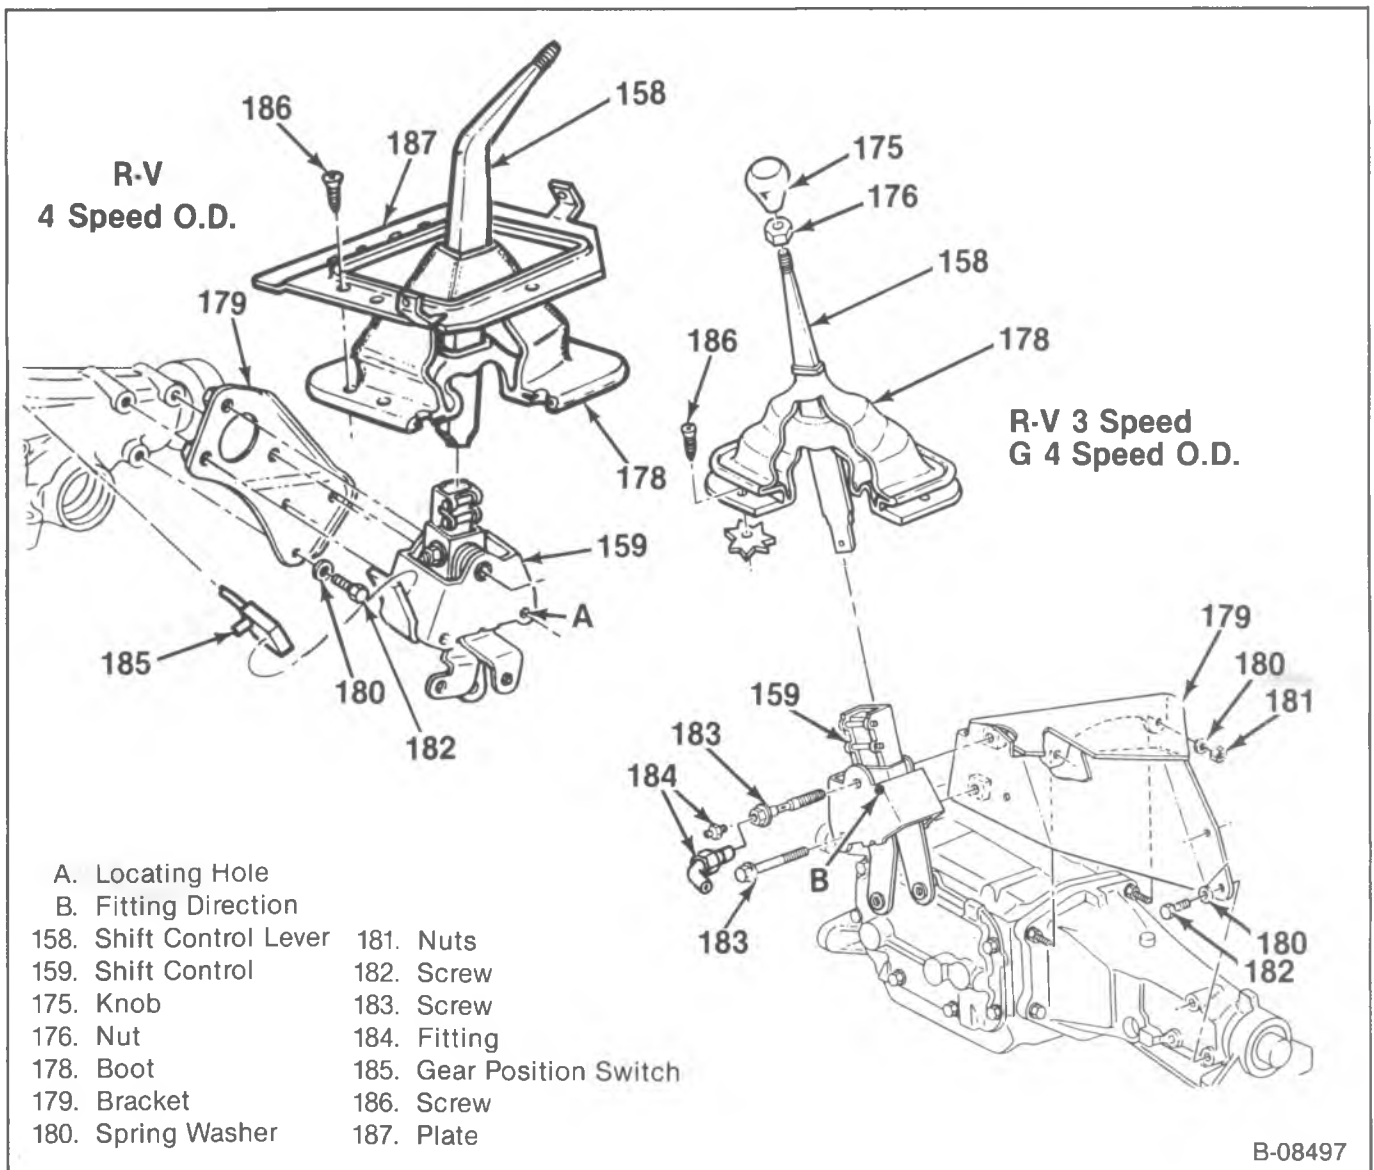

Figure 8—Floor Shift Control (3 Speed/4 Speed O.D.)
**Remove or Disconnect (Figure 8)**
1. Knob (175) and the nut (176).
2. Screws (186) and the boot (178).
- Plate (187) if used.
3. Shift control lever (158).
Install or Connect (Figure 8)